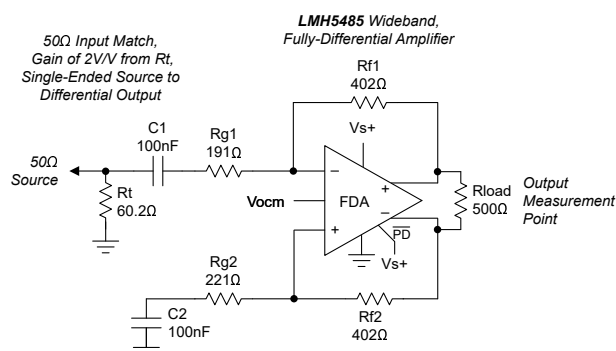
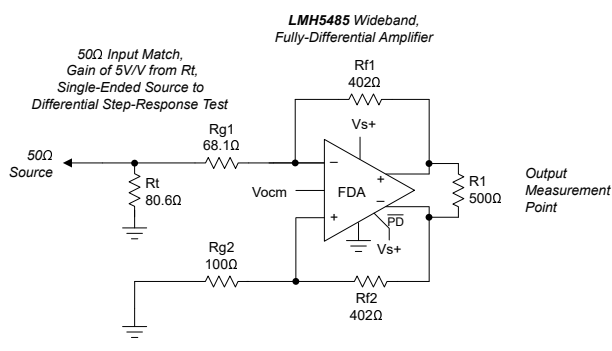

Figure 7-1. AC-Coupled, Single-Ended Source to a Differential Gain of a 2V/V Test Circuit
Figure 7-2. DC-Coupled, Single-Ended-to-Differential, Basic Test Circuit Set for a Gain of 5V/V
50MHz input, 0.5ns input edge rate, single-ended to differential output, split supply, dc-coupled, see Figure 7-2
$2V_{PP}$ output, see Figure 7-1
Single-ended input to differential output, simulated differential output impedance, see Figure 7-1
Single-ended input to differential output, gain of 2 (see Figure 7-1), simulated with 1% resistor, worst-case mismatch
Single-ended to differential, gain of 2 (see Figure 7-1) PSRR simulated to differential output
Average Vocm output offset of 37 units, standard deviation < 2.5mV, see Figure 7-2
Single-ended to differential gain of 2 (see Figure 7-1), PSRR for negative supply to differential output (1kHz simulation)
Single-ended to differential gain of 2 (see Figure 7-1), PSRR for positive supply to differential output (1kHz simulation)
see Figure 7-2
The LMH5485-SP offers the advantages of a fully differential amplifier (FDA) design, with the trimmed input offset voltage of a precision op amp. The FDA is an extremely flexible device that provides a purely differential output signal centered on a settable output common-mode level. The primary options revolve around the choices of single-ended or differential inputs, ac-coupled or dc-coupled signal paths, gain targets, and resistor Value selections. Differential sources can certainly be supported and are often simpler to both implement and analyze. Figure 7-1 and Figure 7-2 show examples of both ac and dc coupled single-ended to differential circuits.
Figure 7-1 shows how most characterization plots fix the R_f value at 402Ω. This value is completely flexible in application, but the 402Ω provides a good compromise for the issues linked to this value, specifically:
- Added output loading. The FDA appears like an inverting op amp design with both feedback resistors as an added load across the outputs (approximate total differential load in Figure 7-1 is $500\Omega \parallel 804\Omega = 308\Omega$).
The outputs offer near rail-to-rail output swing (0.2V headroom to either supply), while the device inputs are negative rail inputs with approximately 1.2V of headroom required to the positive supply. Figure 7-2 shows how this negative rail input directly supports a bipolar input around ground in a dc-coupled, single-supply design. Similar to all FDA devices, the output average voltage (common-mode) is controlled by a separate common-mode loop. The target for this output average is set by the Vocm input pin that can be either floated to default near midsupply or driven to a desired output common-mode voltage. The Vocm range extends from a very low 0.91V above the negative supply to 1.1V below the positive supply, supporting a wide range of modern analog-to-digital converter (ADC) input common-mode requirements using a single 2.7V to 5.4V supply range for the LMH5485-SP.
Going to the device input pins side, because both the source and balancing resistor on the nonsignal input side are dc blocked (see Figure 7-1), no common-mode current flows from the output common-mode voltage, thus setting the input common-mode equal to the output common-mode voltage.
The output considerations remain the same as for the ac-coupled design. Again, the input can be dc-coupled while the output is ac-coupled. A dc-coupled input with an ac-coupled output can have some advantages to move the input V_{icm} down if the source is ground referenced. Figure 7-2 shows how when the source is dc-coupled into the LMH5485-SP, both sides of the input circuit must be dc coupled to retain differential balance. Normally, the nonsignal input side has an R_{g} element biased to whatever the source midrange is expected to be. Providing this midscale reference gives a balanced differential swing around V_{ocm} at the outputs.